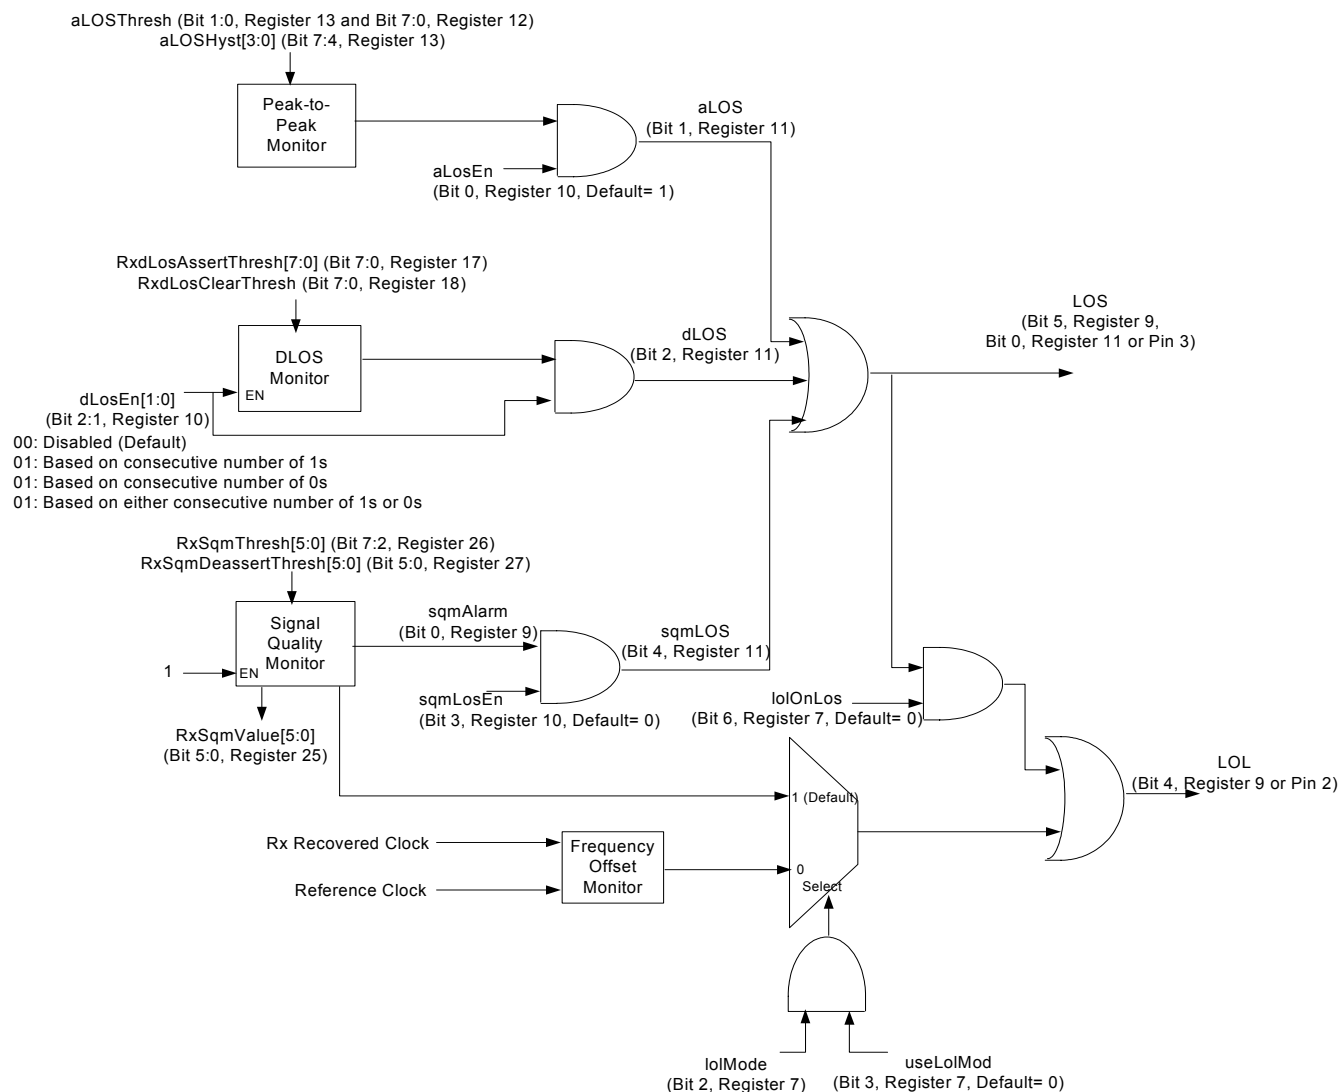

Figure 16. Rx LOS and LOL Block Diagram
The Si5040 receiver generates a loss-of-signal alarm when the input signal fails to meet the selected programmable condition for loss of signal. The programmable LOS mode is controlled in the RxlosCtrl register (Register 10). The programmable modes are Analog Loss Of Signal (ALOS), Digital Loss of Signal (DLOS), and Signal Quality Monitor (SQM). As shown in Figure 16, one or more of these alarm signals is logically combined into the Receiver Loss of Signal (RX_LOS) alarm pin (Pin 3). The state of the RX_LOS alarm pin will also be reflected in the LOS bit in the RxAlarmStatus register (Register 9). LOS may also be configured to generate an interrupt. The status of the LOS interrupt bit may be read in the RxintStatus register (Register 5). The status of the various LOS modes is
LOL may be configured to generate an interrupt. The status of the LOL interrupt bit can be read from the `RxintStatus` register (Register 5). The status of LOL may also be read from the `RxAlarmStatus` register (Register 9). LOL may also be asserted upon activation of LOS (see "5.4. Receiver Loss of Signal Alarm (LOS)" on page 19 and Figure 16 on page 23). Receive data (RD) may be squelched on LOL. This option is configured in the `RxDPathConfig` register (Register 28).